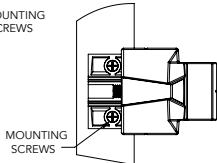

Figure 9
4. Open the gate and adjust the keeper assembly out to expose the two remaining screw locations (Figure 9). Install two (included) flat head mounting screws and then return the keeper assembly back to the properly-aligned position.